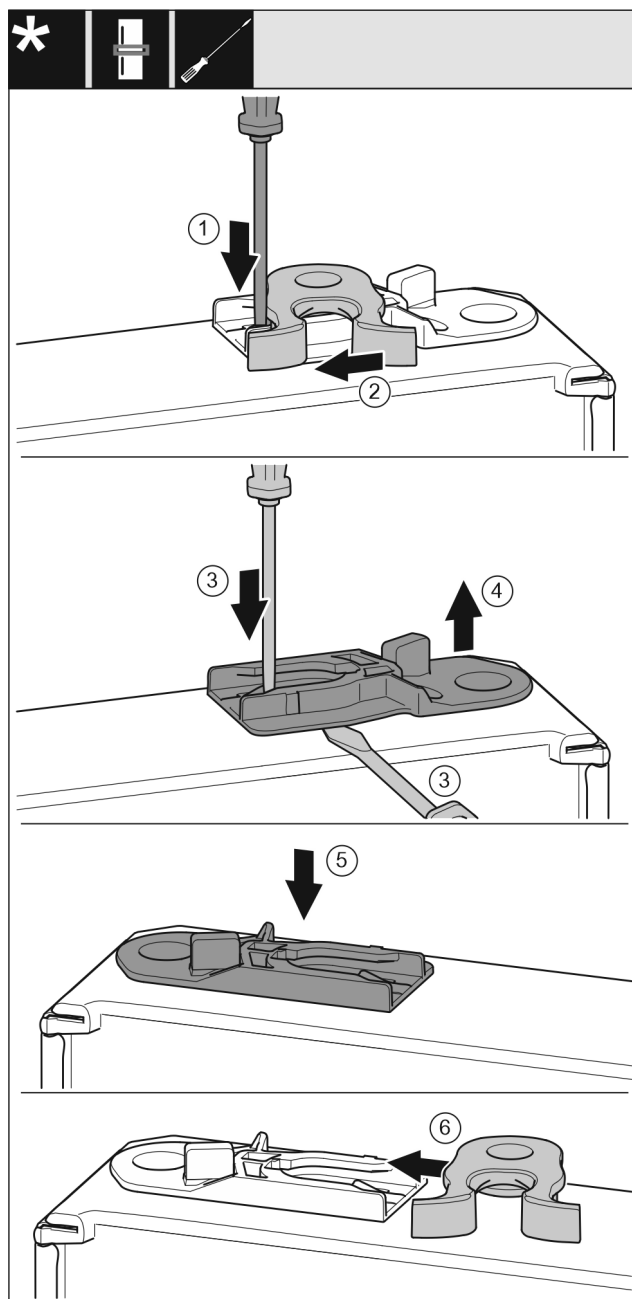

Fig. 50 *
- Use a slotted screwdriver to push the tab Fig. 50 (1) downwards.*
- Pull the closing hook Fig. 50 (2) out of the guide.*
- Pull out the guide bush Fig. 50 (3, 4): Press the tab with a flat-blade screwdriver and at the same time move the flat-blade screwdriver under the guide bush.*
- Insert the guide bush Fig. 50 (5) supplied on the other side of the housing.*
- Slide the closing hook Fig. 50 (6) into the guide.*